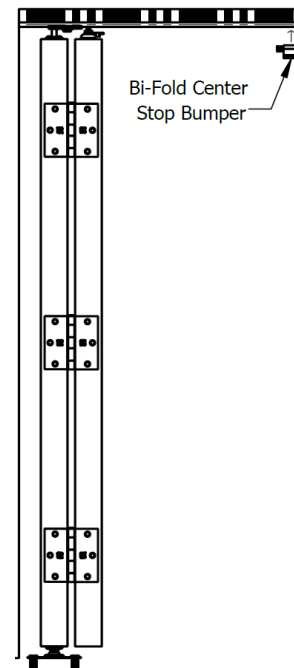

Figure 11
- Attach the Bi-Fold Center Stop Bumper as seen on Figure 11